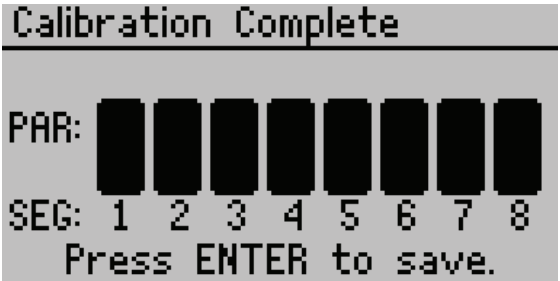

Figure 33 Calibration Complete screen
- 11. Press **ENTER** again to complete the calibration (Figure 33).